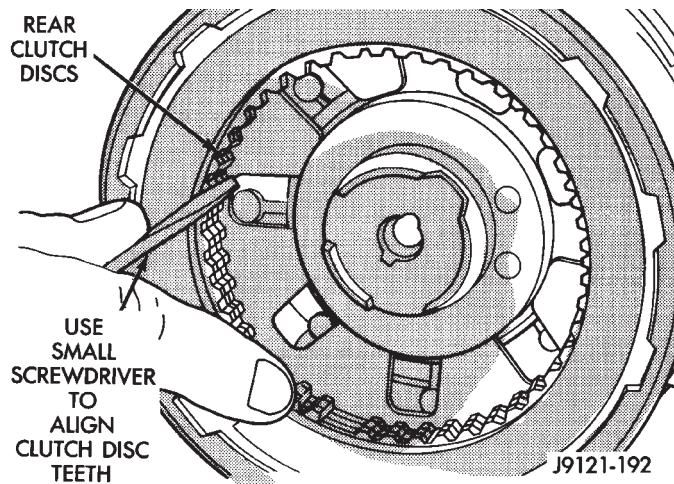

Fig. 145 Aligning Rear Clutch Disc Lugs
(6) Align drive teeth on rear clutch discs with small screwdriver (Fig. 145). This will make installation on front planetary easier.